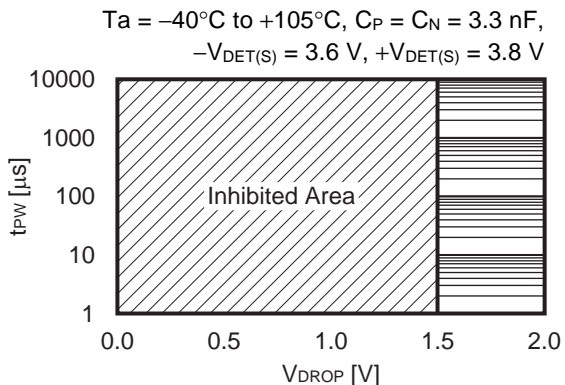

Figure 54
Figure 54 and **Figure 55** show the relation between pulse width (t_{PW}) and V_{DD} lower limit (V_{DROP}) where a release signal can be output after the normal release delay time has elapsed when the V_{DD} pin (V_{DD} detection product) instantaneously drops to the detection voltage ($-V_{DET}$) or lower and then increases to the release voltage ($+V_{DET}$) or higher during release delay time.
1. **Figure 54** and **Figure 55** show the input voltage conditions when a release signal is output after the normal release delay time has elapsed. When this is within the inhibited area, release may erroneously be executed before the delay time completes.
2. When the V_{DD} pin voltage is within the inhibited areas shown in **Figure 54** and **Figure 55** during release delay time, input 0 V to the V_{DD} pin then restart the S-19110 Series.